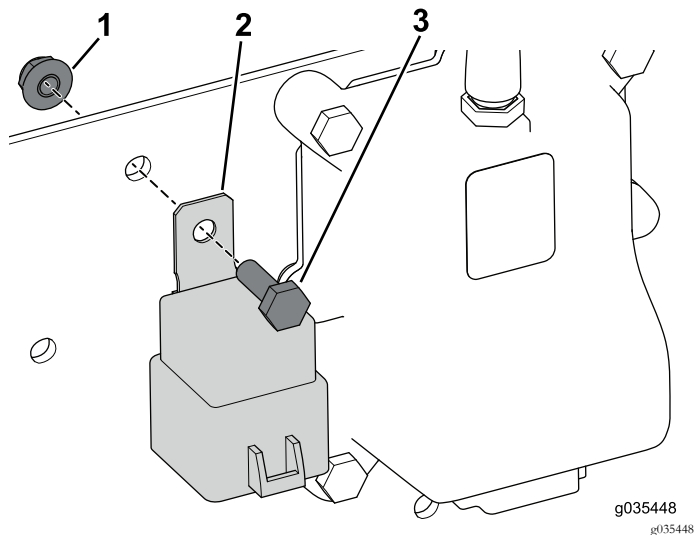

Figure 13
- Use the bolt (1/4 x 3/4 inch) and flange nut to secure the relay (Figure 13).